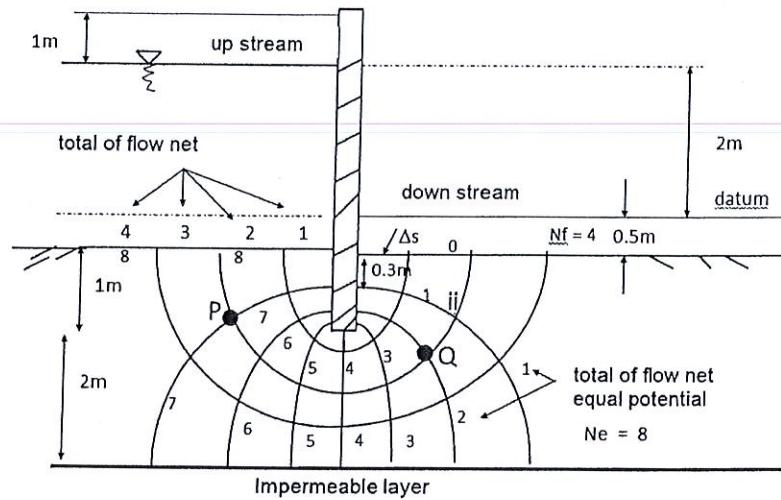

Figure 4a / Rajah 4a
- (b) Figure 4a show the flow net under the sheet pile. If the soil permeability coefficient is  $7.5 \times 10^{-2}$  mm/s. Calculate permeability of water loss in  $m^3/hour/m$  length and pore water pressure at P and Q .